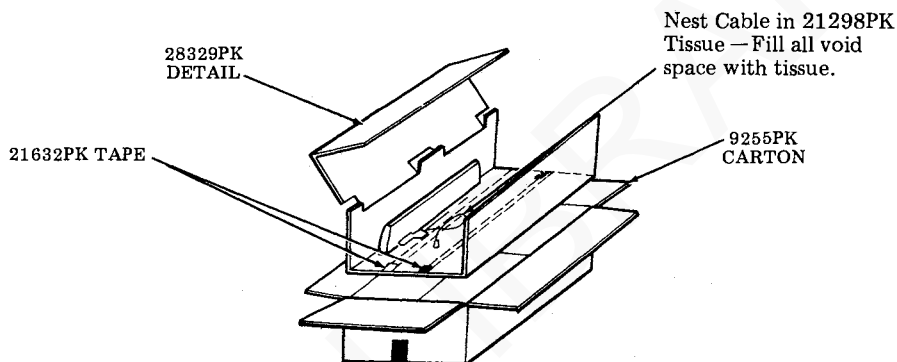

Fig. 42
- Step 1. Form a 28329PK detail. Slide unit base in slot in detail as illustrated in Fig. 42. Secure base of unit to bottom of detail with two strips of 21632PK tape. Buff tape firmly.